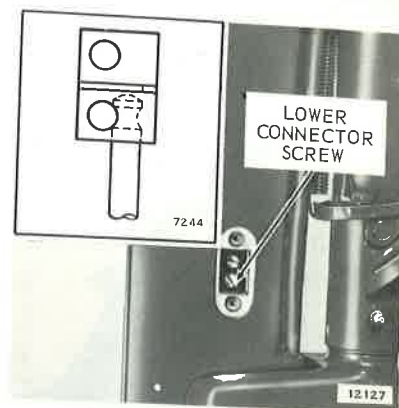

Figure 6-4. Shift Rod Connector
- Remove exhaust housing cover plate to expose shift rod connector. Remove lower connector screw. See Figure 6-4.